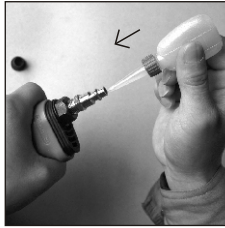

Figure 3
- Place 2- 3 drops of air tool oil (not included) into the male plug before each use. (See Figure 3)